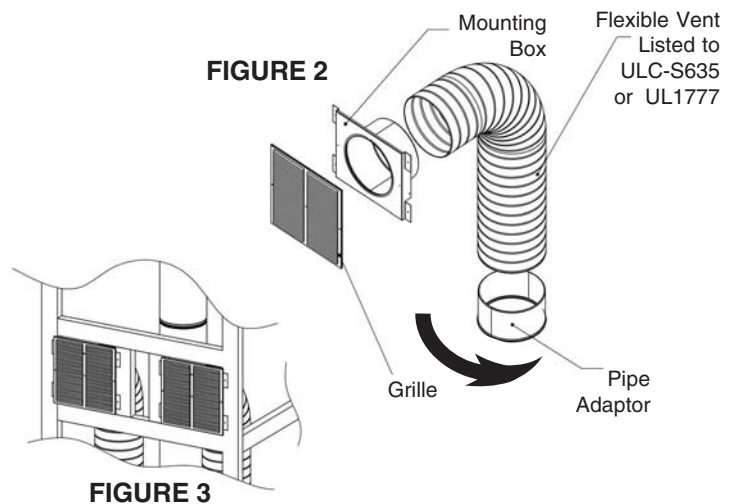

FIGURE 3
3. Frame a 283mm (11-1/8") x 257mm (10-1/8") opening for the mounting box. Nail in place with suitable nails or screws (see Figure 3).